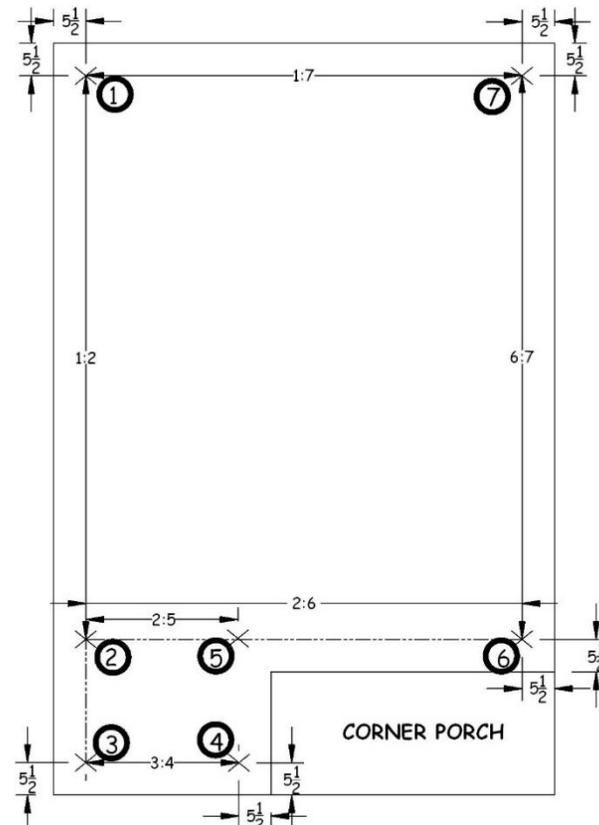

Figure 3-3. Wall Layout with Corner Porch.
1. **Create a Rectangle** on the main deck section (see Figure 3-3).